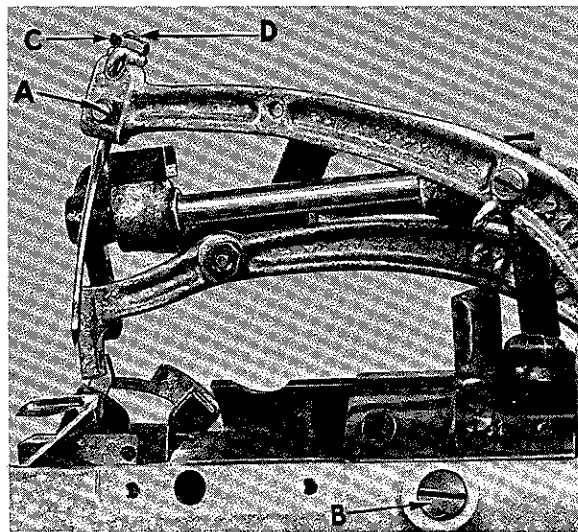

Fig. 2
This machine uses needle Type 9854 size 080. It is inserted in the needle lever with its flat directly under the set screw (A, Fig. 2). The needle should be pushed up in its holder as far as it will go.
In order to make this adjustment remove the plug screw from the front of the frame casting (B, Fig. 2). Here will be found a set screw which holds the looper shaft. Loosen this screw and move the looper shaft to right or left to secure the  $5/32$ " looper gauge. Re-tighten set screw.
To change the height of the needle, loosen set screw (A, Fig. 2), then loosen lock nut (C) and regulate the height adjusting screw (D) to the desired position. Re-tighten lock nut and needle set screw.